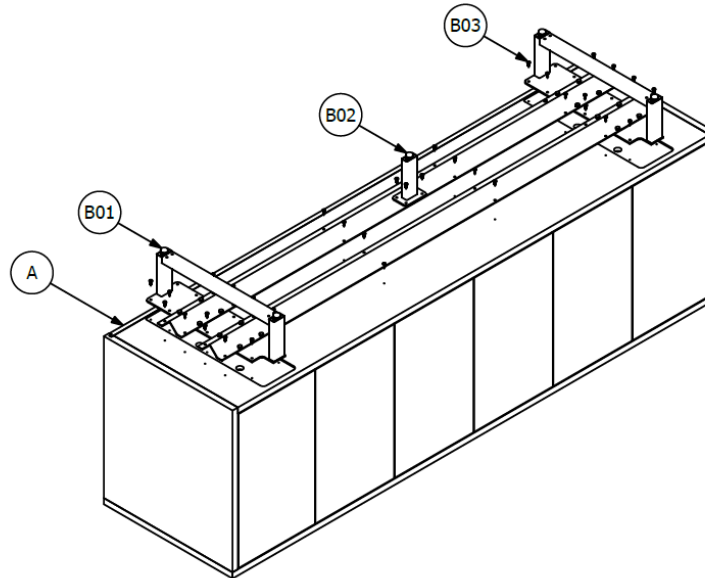

FIG. 01:
1. With Case (A) positioned up-side-down, secure Base Assembly (B01) using Fastener (B03). See Figure 01.
2. Credenzas optioned with Lateral Files, Refrigerators and/or AV Equipment will include one or more Intermediate Leg (B02). Using factory-drilled pilot holes for proper positioning, use Fastener (B03) to attach Intermediate Leg(s). See Figure 01.